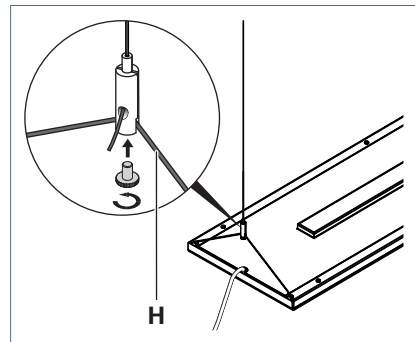

Fig. 9: Fastening the single or start luminaire to the wire rope holder.
- ▶ Insert the wire rope **H** of the luminaire into the wire rope holder, see Fig. 9.